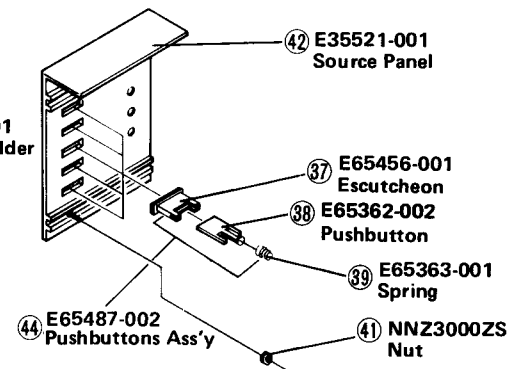

Fig. 7B
3. Squeeze the both ends of escutcheon then, pull out the pushbuttons (Item No. 38) slightly. Refer to Fig. 7B.